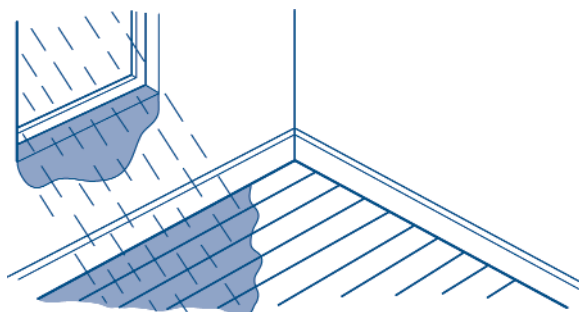

Figure 5 Rain through unglazed window
- ◆ Glazing before fixing floorings, linings etc minimises the possibility of timbers being soaked and therefore reduces excessive shrinkage and twist (*Figure 5*).